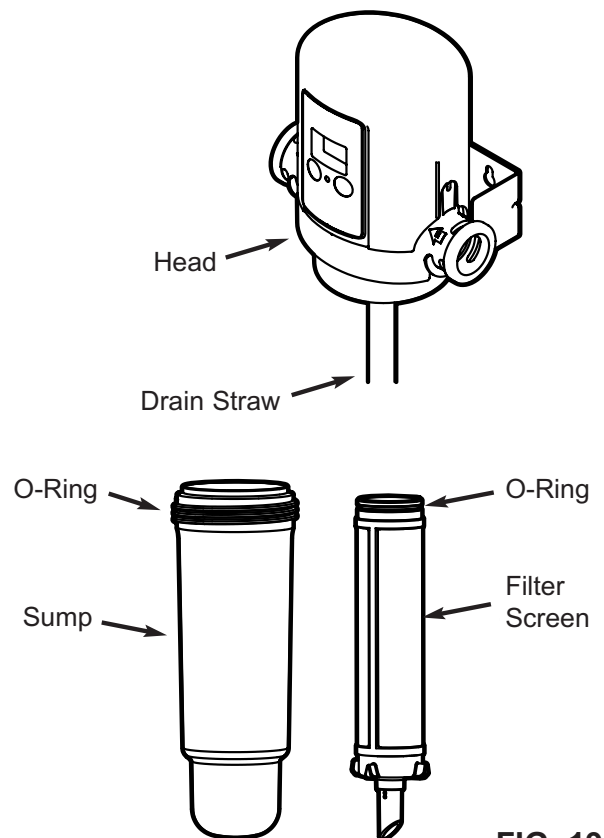

FIG. 19
5. Remove the filter screen assembly by pulling it down out of the AFF head (See Figure 19).
7. The drain straw may have come out of the AFF head when the sump and filter screen were removed. If so, reinsert it into the small hole at the center of the head assembly (See Figure 19).
8. Make sure the o-ring is in place on the filter screen assembly (See Figure 19). Make sure that no sediment particles are on the o-ring or the corresponding sealing area in the head. Slide the filter screen over the drain straw and into the corresponding hole at the center of the AFF head. Push it in to engage the o-ring seal.
9. Make sure the large o-ring is in place on the sump (See Figure 19). Make sure no sediment particles are on the o-ring, sump threads or corresponding threads in the AFF head. Slide the sump over the filter screen and screw it into the AFF head to seal. Do not overtighten.